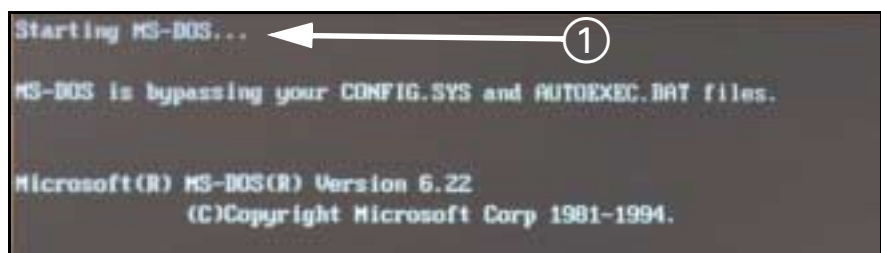

Figure 9-3 Boot window
- 4) Release F5 key when message "Starting MS-DOS...." appears (see ① in Figure 9-3).